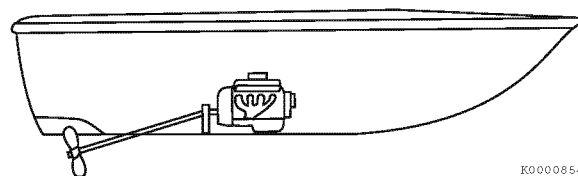

Figure 4-5
- Angle (**Figure 4-5**)
This configuration is sometimes called the down-angle drive system. The output shaft of the marine gear is inclined at 7 to 10° to the crankshaft (**Figure 4-5**). The gentle inclination of the engine/marine gear package reduces space requirements in the engine room.